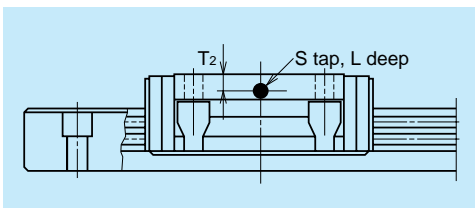
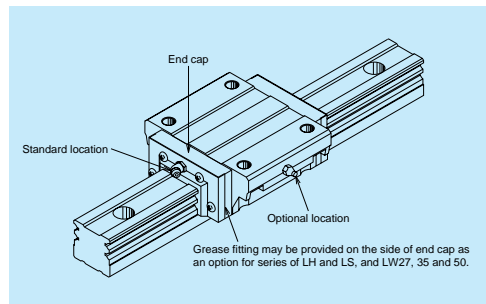

Fig. II-4-4 Optional position in LY Series
Fig. II-4-3 Location of grease fitting
- For standard specifications, the grease fitting is installed at the end of the ball slide. It can be installed on the side of the ball slide as an option. Refer to Fig. II-4-3, Fig. II-4-4, and Table II-4-1.